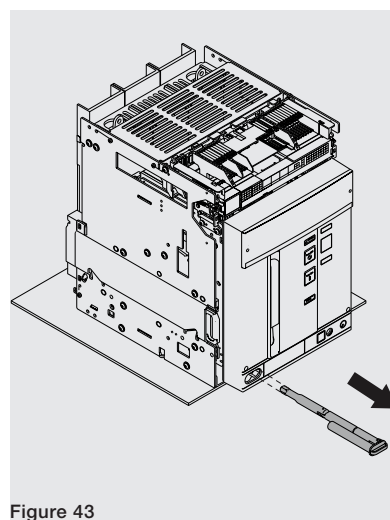

Figure 43
7. Extract the disconnection crank from its housing See Figure 43.